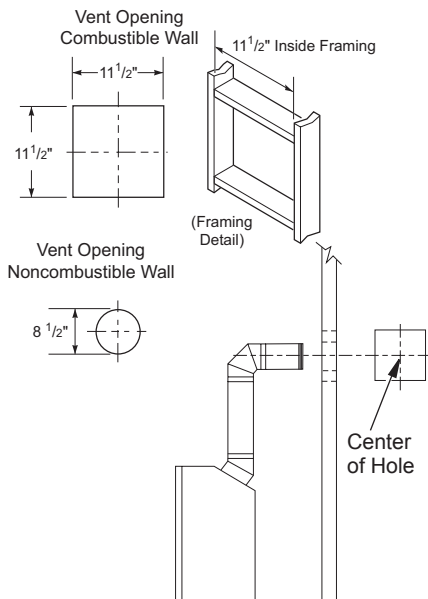
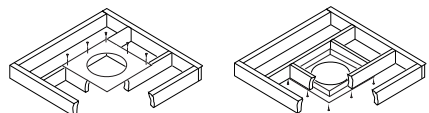

Figure 9 - Vent Opening Requirements
Figure 20 - Installing Firestop
vent pipe. Mark the wall for a 11 1/2" x 11 1/2" square hole. Cut and frame the square hole in the exterior wall where the vent will be terminated. If the wall being penetrated is constructed of noncombustible material, such as masonry block or concrete, a 8 1/2" hole with zero clearance is acceptable (see Figure 9).
1. Cut a 11 1/2" square hole in the ceiling using the locating hole as a center point. The opening should be framed to 11 1/2" x 11 1/2" inside dimensions, as shown in Figure 9 on page 10 using framing lumber the same size as the ceiling joists. If the area above the ceiling is an insulated ceiling or an attic, nail firestop from the top side. This prevents loose insulation from falling into the required clearance space. If the area above the ceiling is a living space, install firestop below the framed hole. The firestop should be installed with no less than three nails per side (see Figure 20).
3. Cut a hole in the roof using the locating hole as a center point. (Cover any exposed open vent pipes before cutting hole in roof.) The 11 1/2" x 11 1/2" hole must be measured on the horizontal; actual length may be larger depending on the pitch of the roof. There must be a 1" clearance from the vent pipe to combustible materials. Frame the opening as shown in Figure 9, page 11.